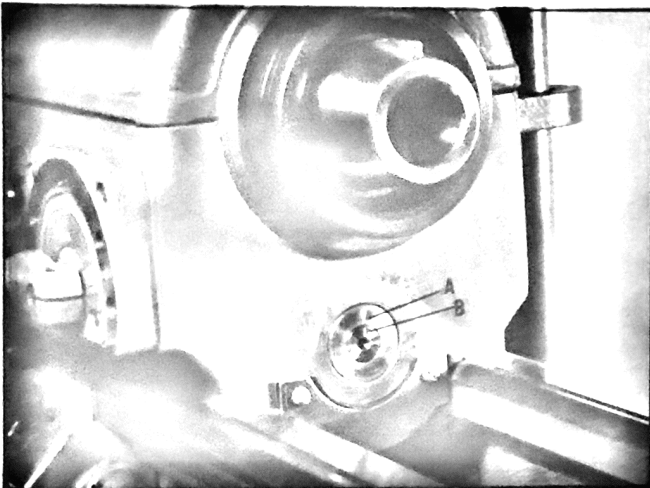

Fig. 17.
1. No adjustment of the back gears is necessary, since all the parts are factory fitted and the teeth meshed with proper back lash and the whole assembly dowelled. If, however, the back gears have been disassembled, realign the witness marks (A and B) Fig. 17, as described in Step #6 on Page 25 under Removing and Replacing Outboard Spindle Bearing, Spindle V-Belts, and Back Gears.